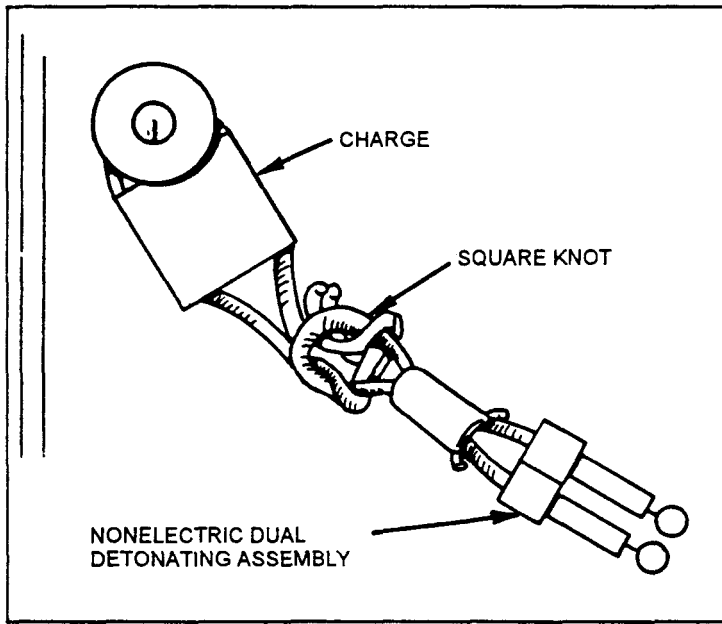

Figure M-4. Charge placement against doorknob.
(3) To breach a standard door, place the top loop of the charge over the doorknob. Slide the uli knots taped to the C4 so that the charge is tight against the knob. Prime the loose ends of the detonation cord with either an electric or nonelectric firing system and detonate (Figure M-4). To cut mild steel chain, place the loop completely around the chain link to form a girth hitch. Tighten the loop against the link by sliding the uli knots.